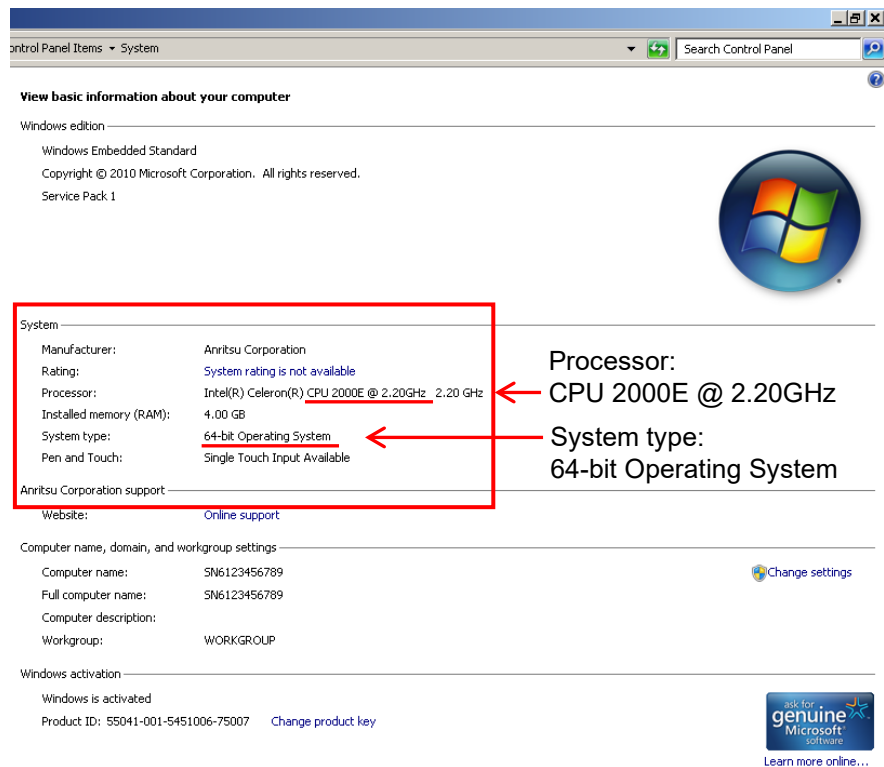

図9.7-3 Windows Embedded Standard 7 (WES 7)
- 図 9.7-3 Windows Embedded Standard 7 (WES 7)